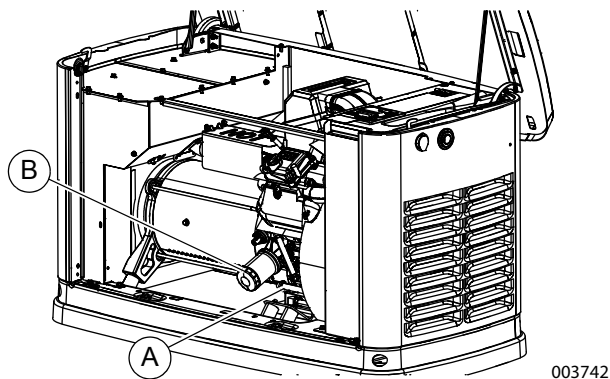

Figure 4-1. Oil Filter and Drain Location
2. See Figure 4-1. A few minutes after the engine stops, and when it has cooled slightly, lift the lid and remove the front panel. Pull the oil drain hose (A) free of its retaining clip. Remove the cap from the hose and drain the oil into a suitable container.